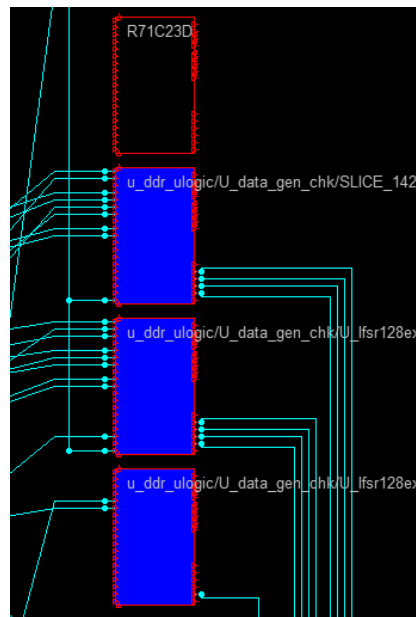

Figure 3.34. Physical View of the Component
2. Change the view to Routing Mode to view the component in Physical View as shown in Figure 3.34.